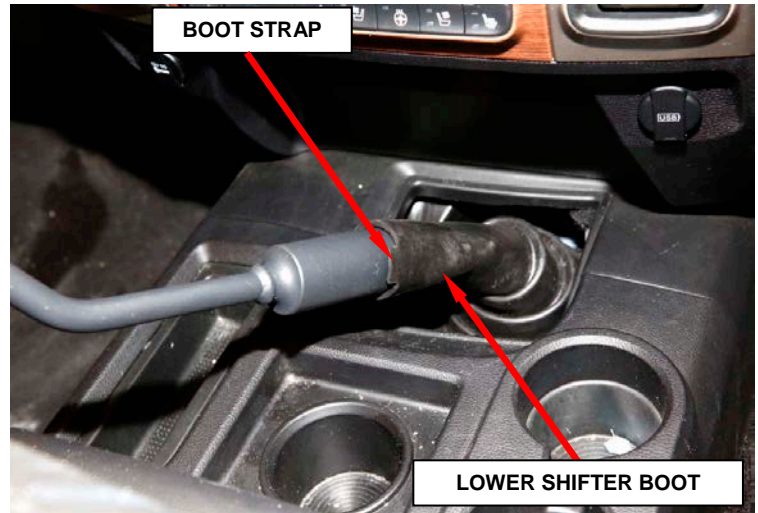

Figure 7 – Lower Shifter Boot
10. Grasp the lower shifter boot side straps and pull in an upward direction to reseat the lower boot onto the gearshift lever (Figure 7).